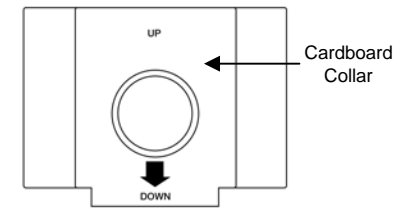
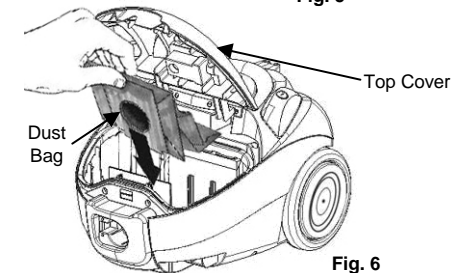

Fig. 5
Fig. 6
2. Holding the dust bag in your hand, grasp the cardboard collar. (Fig. 5) You will notice that the cardboard collar has an arrow on it to show you which end must be inserted into the tab located near the intake duct. (Fig. 6)